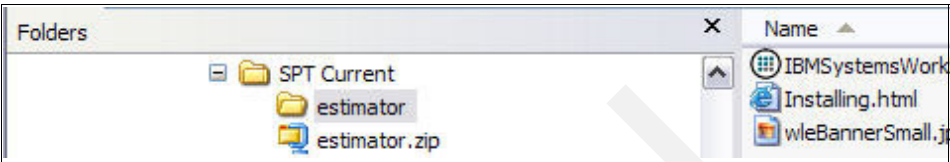

Figure B-3 Estimator zip file extracted
3. Use an extract program to decompress the zip, and the installation files will be extracted to the default directory estimator, as shown in Figure B-3.